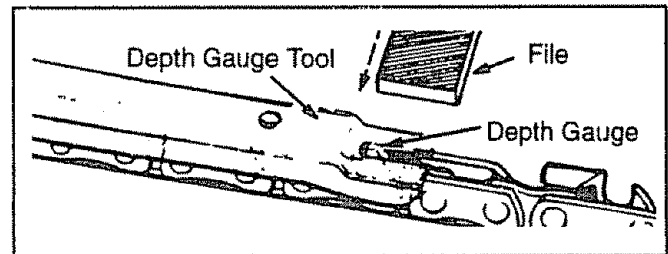

Figure 31
(Fig. 31, 32, 33, 34, 35, 36 & 37)
- To check depth gauge, place gauge tool on cutter. If the depth gauge projects above the tool, then file it level to the top of the depth gauge tool. See Figure 31.